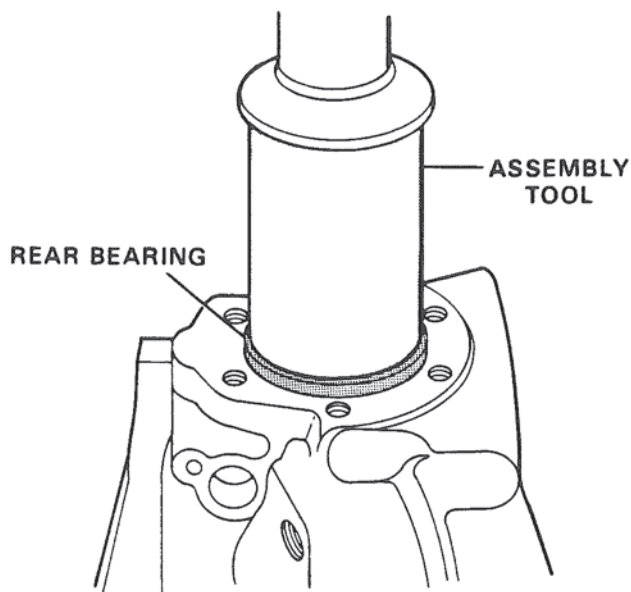

Figure 44. Rear Bearing Pressed in Place.
7. Using an assembly tool designed to press evenly on the bearing outer and inner races, press bearing down until seated against shaft or case shoulder. Figure 44.